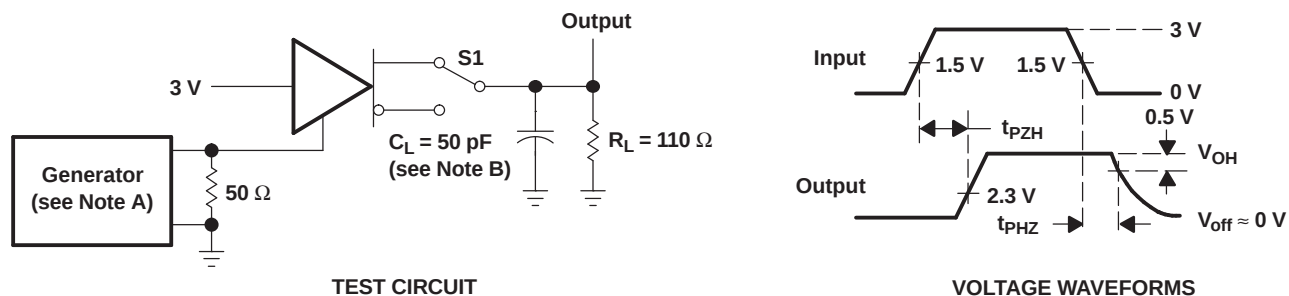

**Figure 2. Driver  $V_{OD}$**
|                                                                                     | $R_L = 60\ \Omega$ ,See Figure 2              | SN65LBC180A                           |                    | 1 1.5 3   | V             |
| $\Delta  V_{OD} $ Change in magnitude of differential output voltage (2) | See Figure 1 and Figure 2                         | -0.2                                  |                    | 0.2       | V             |